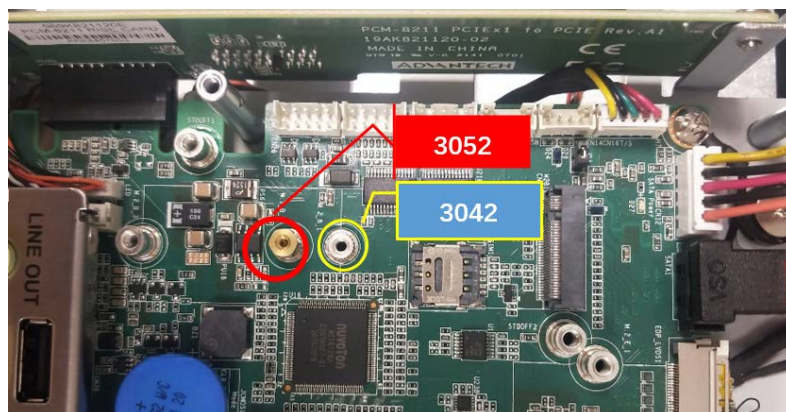

Figure 2.24
2. Add a copper cylinder screw (see Fig. 2.24) provided in the accessory box. Then insert the M.2 card into the correct mainboard slot, and affix it in place using one M2.5x3L screws.